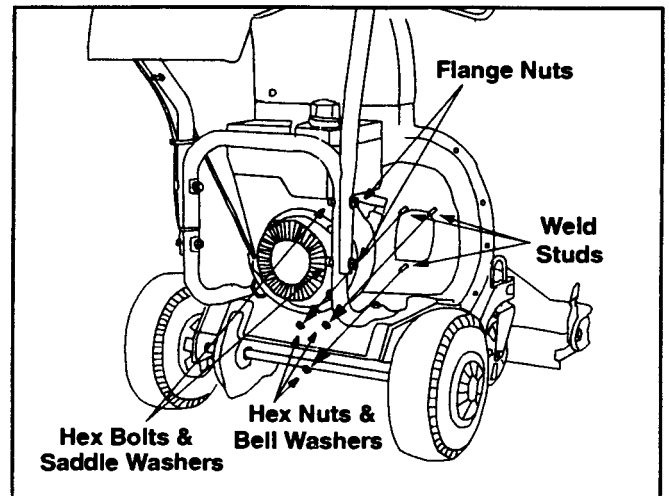

Figure 4
- Remove the two flange nuts, hex bolts and saddle washers which secure the right side of the upper handle to the right side of the lower handle. See Figure 4.